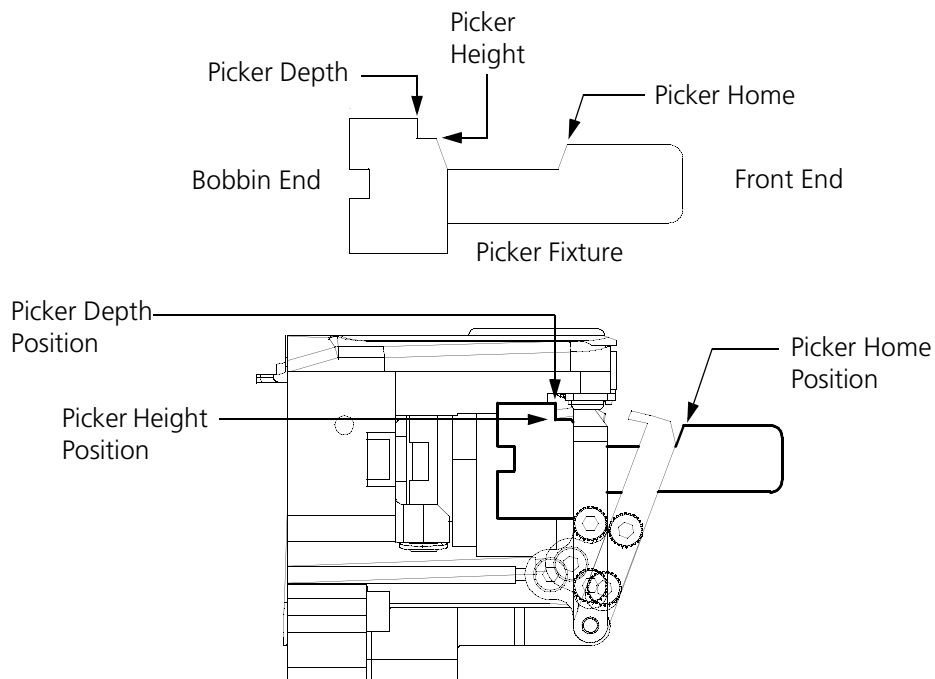

Figure 4-26
2. Install the picker set fixture (as shown in Figure 4-26) to set the picker home position.
4. Move the picker until it rests in the fixture at the picker home position as shown in Figure 4-26.
3. Position the height of the picker against the fixture location shown in Figure 4-26.